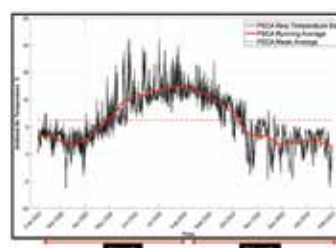
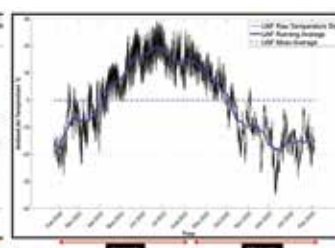

Figure 4: Ambient Air Temperature at PSCA – Raw vs Averaged Data.
Figure 5: Ambient Air Temperature at Fairbanks – Raw vs Averaged Data.
Figure 4 delineates the ambient air temperature at the PSCA site, which, during the winter months, dips below the freezing mark on several instances and occasionally falls beneath -5°C. Despite these sporadic plunges, the overall trend captured by the solid red line indicates that the ambient air temperature stays above 0°C throughout the entire year-long exposure period, with the mean average, illustrated by the dotted red line, stabilizing around 6°C. The PSCA’s proximity to the Pacific Ocean, a mere 600 feet away, confers a stabilizing effect on its air temperature, moderating the extremes that might otherwise be observed. The climatic profile of Fairbanks, Alaska, is characterised by its starkly contrasting temperatures, with intense cold in the winter and, unexpectedly, notable warmth in the summer. As depicted in Figure 5, the ambient air temperature at the UAF site plummets to a frigid -35°C in December 2022 and soars to 28°C by late June 2022.
The plot of mass loss vs time for MC (Figure 4) shows a rise in corrosion rate following stabilisation around the first year of exposure. Corrosion kinetics at SJ show a similar trend during this time period (Surnam, 2015), except that the mass loss is lower for MC. SEM imaging of the 11-month exposed surface at MC shows a mixture of lepidocrocite ( $\gamma$ -FeOOH) and goethite ( $\alpha$ -FeOOH) rust phases (Figure 5), a characteristic of regions with longer TOW (Thandar *et al.*, 2022). MC/SJ is an inland rural area, and TOW is the most likely factor influencing the corrosion rate, as observed with a shift in TOW from category T5 to T4 over the years. In general, Mauritius experienced a higher precipitation from 1990 to 2020, with an average annual increase of 8.6% (World Bank Group, 2025). This could have been effective in washing off deposited pollutants and thus contributed to the decrease in corrosion rate.
**Figure 5. SEM Image of the 11-Month Exposed Surface at Medine Camp de Masque (MC) Showing Bird Nest ( $\gamma$ -FeOOH) and Whiskers ( $\alpha$ -FeOOH) Formations.**